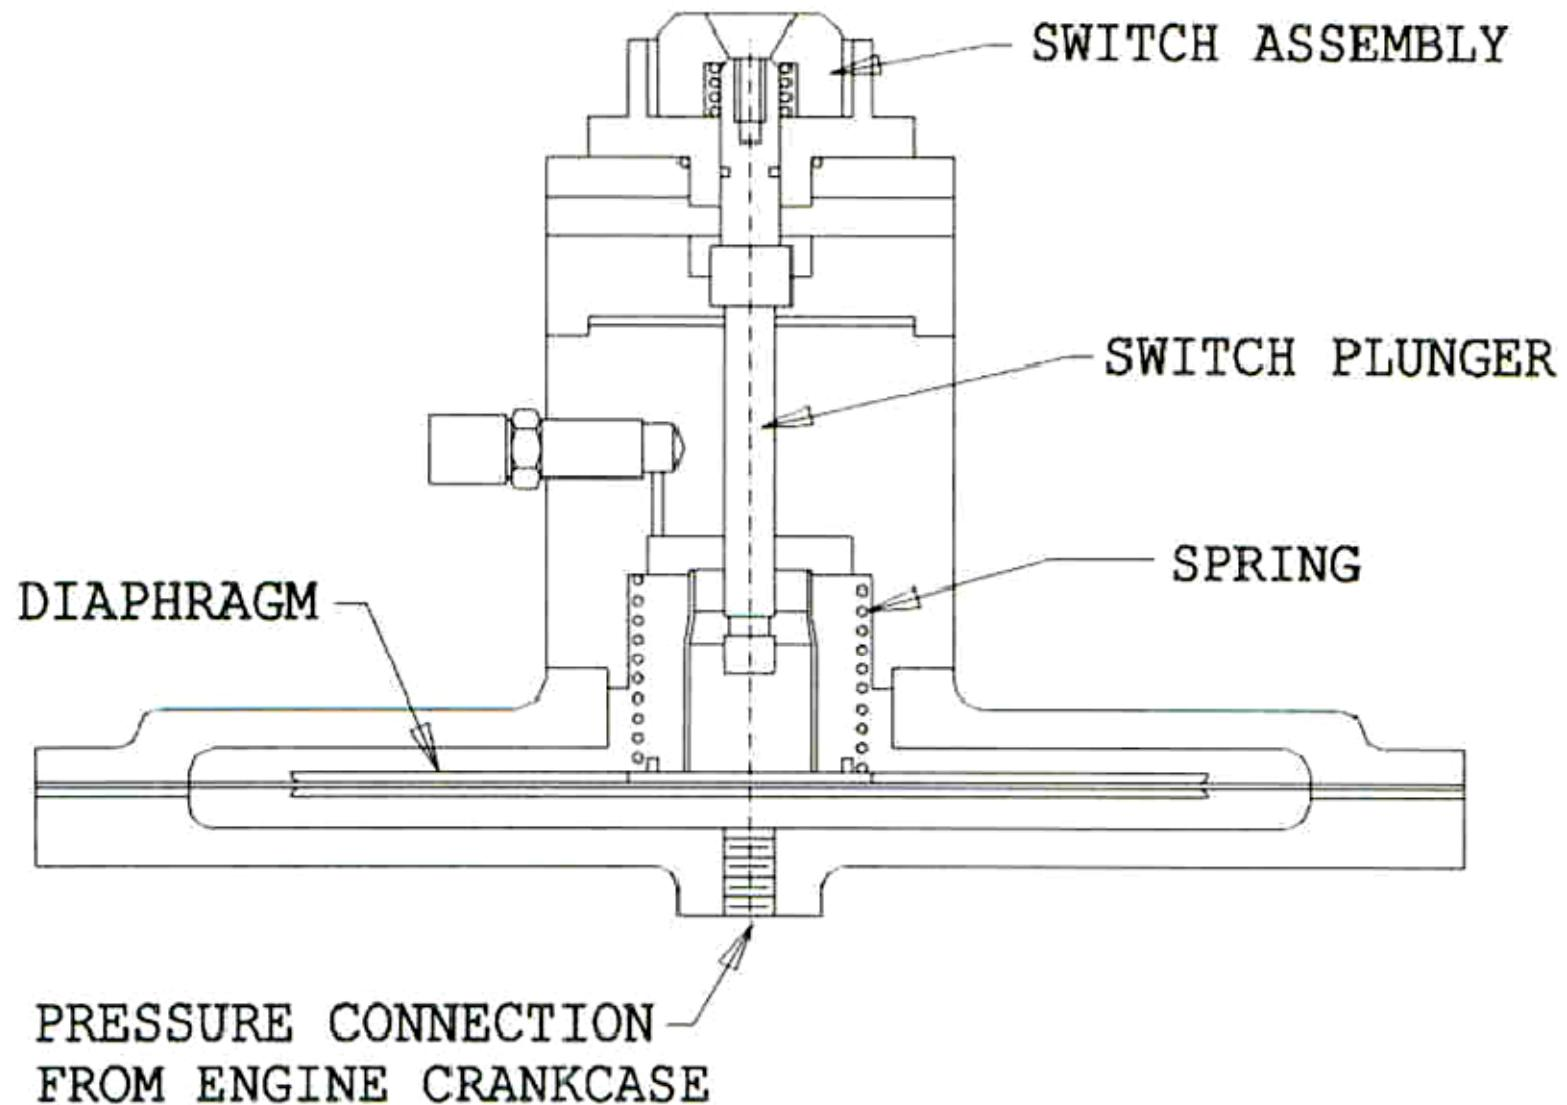

Figure 5-16 Diaphragm-Type Crankcase Pressure Monitoring Switch
- Crankcase pressure (vacuum). Because the oil is contained in the crankcase of the engine, monitoring that space may indicate a problem in the engine. A special sensor for doing so is shown in Figure 5-16.